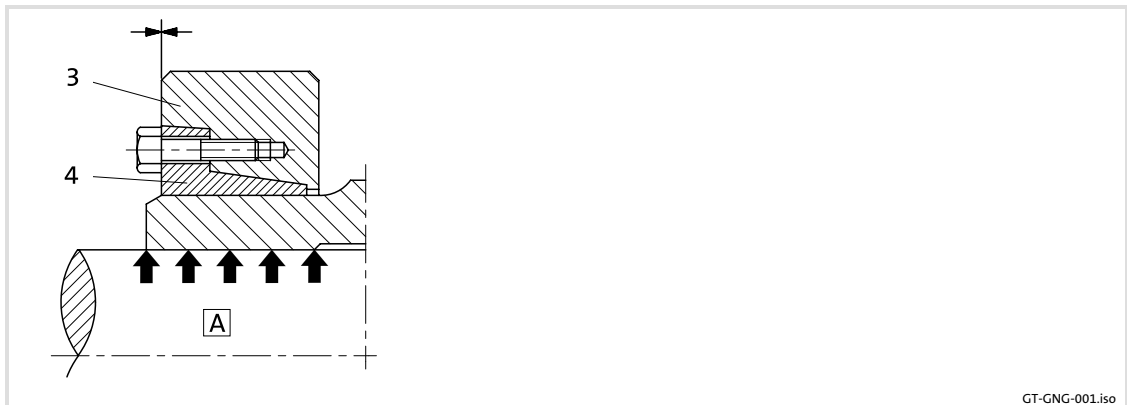

Fig. 9 Hollow shaft with shrink disc
The shrink disc is mounted correctly and fixed when the faces of the outer ring and the inner ring are aligned (Fig. 9). Minimum misalignments are permissible.
1. Remove protective cap (1).
2. Loosen clamping screws (2) evenly one after the other each by $\frac{1}{4}$ revolution in several passes. Do not unscrew clamping screws completely to prevent accidents!
3. Press off outer ring (see Fig. 9), if necessary. For this, loosen the outer ring using the forcing threads and some clamping screws (number corresponding to the forcing threads in the inner ring). For loosening the outer ring, screw in the screws evenly to prevent canting. Press off the outer ring until loosened completely.